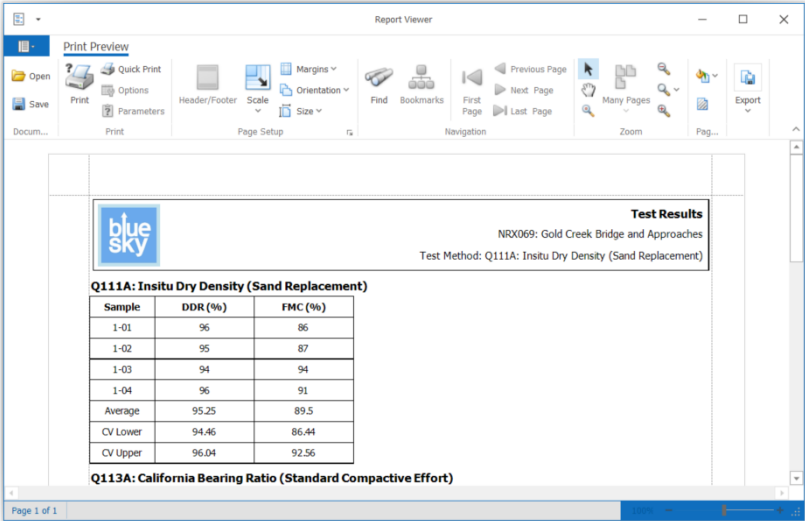

Figure 104 Test Results Report
- To print a report for all of the currently displayed tests, click on the *Test Results* button in the ribbon menu at the top of the test results screen. A report showing the results and characteristic values (where possible) will be shown as in Figure 104.